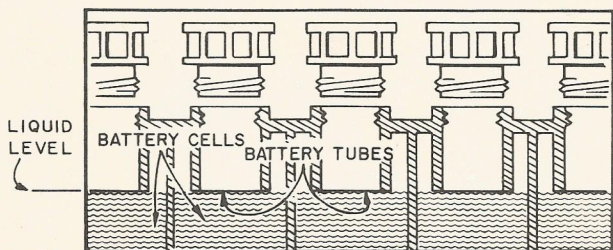

Fig. 2
4. If battery has removable filler vents, check periodically to make sure battery electrolyte (liquid) covers the plates. If liquid is down, add only **DISTILLED WATER** to bring level up. Figure 2 shows typical battery construction. This also helps purge excessive gas from the cells.